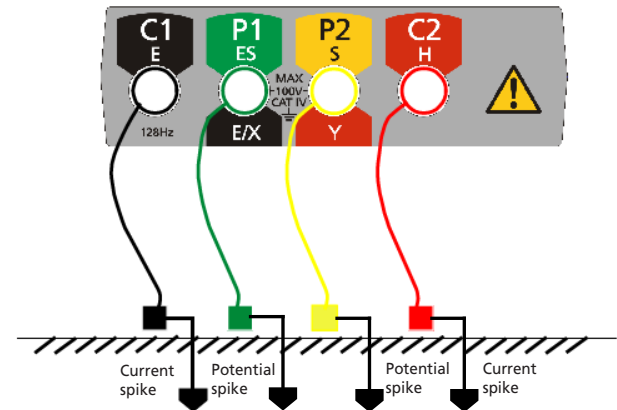

Figure 7:
1. With the selector switch in the 'OFF' position, connect the instrument as shown in Figure 7.